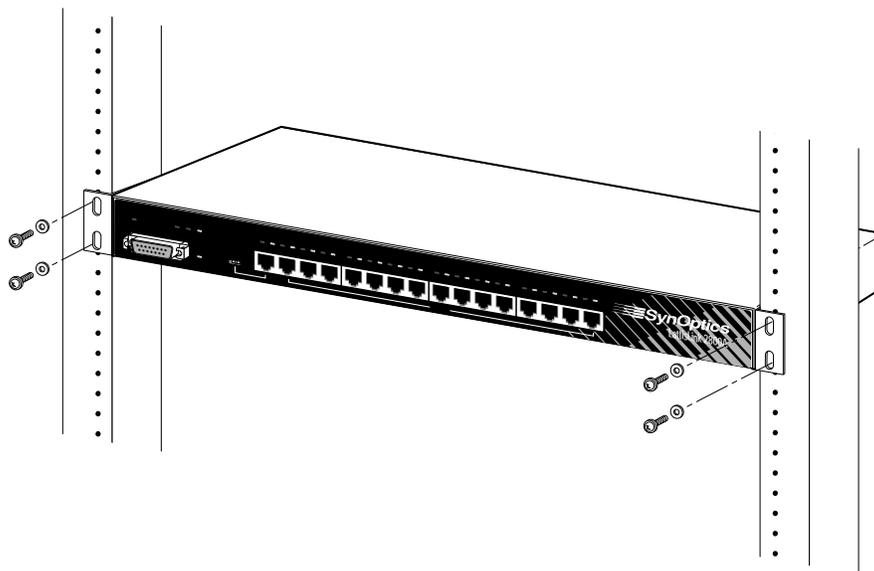

Figure 2-6. Installing Concentrator in Equipment Rack
- a. Hold the concentrator with the mounting holes in the brackets aligned with holes in the rack (see Figure 2-6).